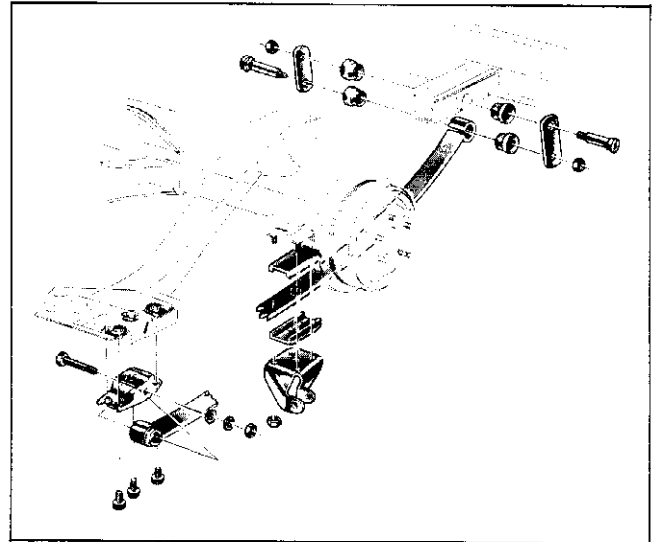
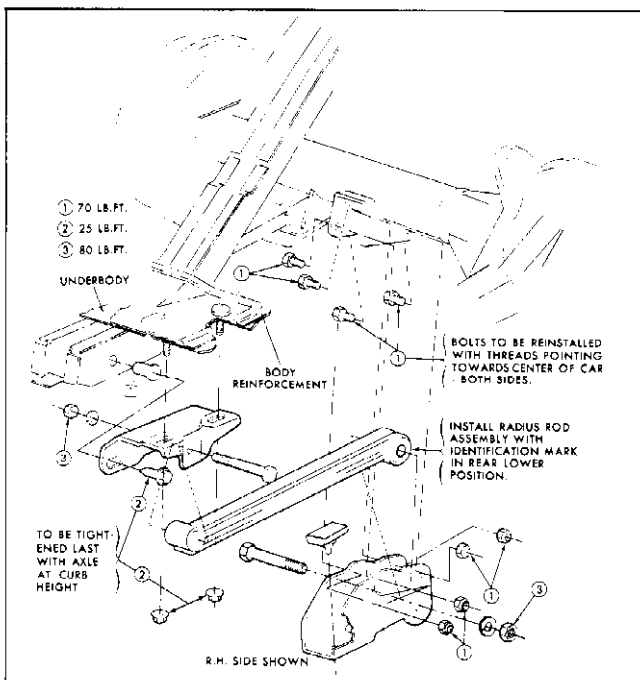

Fig. 4-2 Rear Suspension Spring Attachment
Fig. 4-1 Rear Suspension Radius Rod
The rear suspension (Fig. 4-1 and Fig. 4-2) consists of two uniformly stressed rear springs and two shock absorbers mounted to the spring lower seats. On some models rear suspension radius rods are used. The springs are rubber mounted at both axle and frame attaching points, thus ensuring uniform spring loading, minimizing transmittal of road vibration to passenger compartment and providing pivot point to absorb axle wind-up. The springs are positioned to the axle spring seats by locating pins butt welded to the spring leaf.
1. Raise car on hoist (Fig. 4-1).